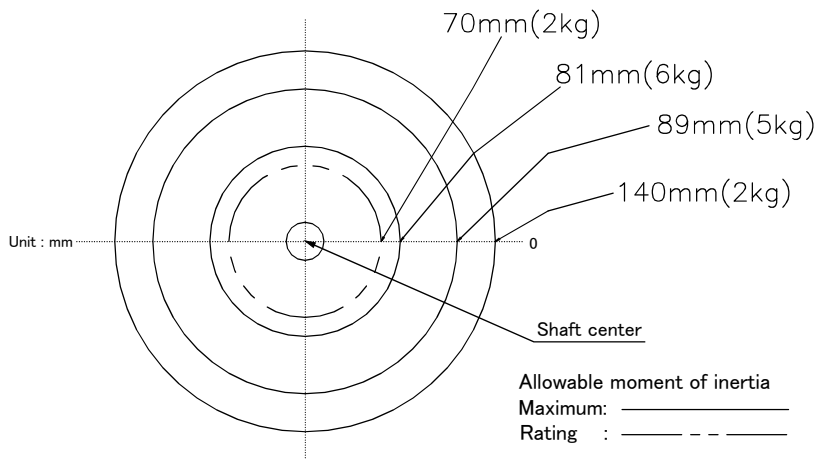
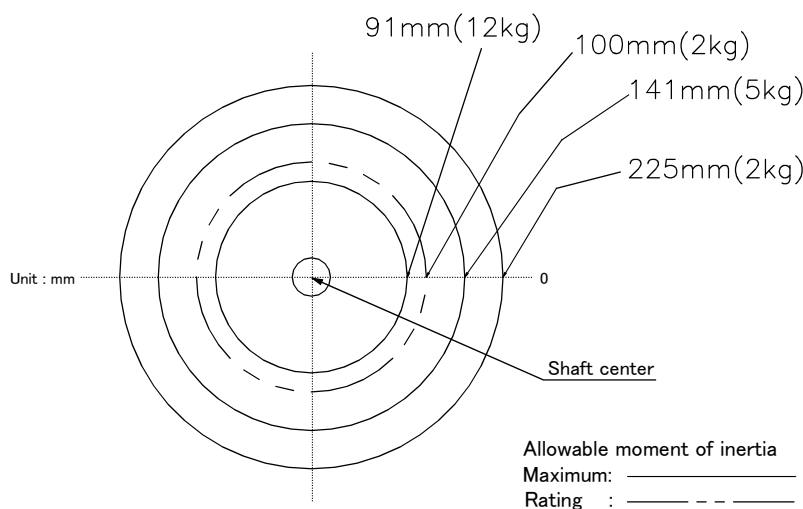
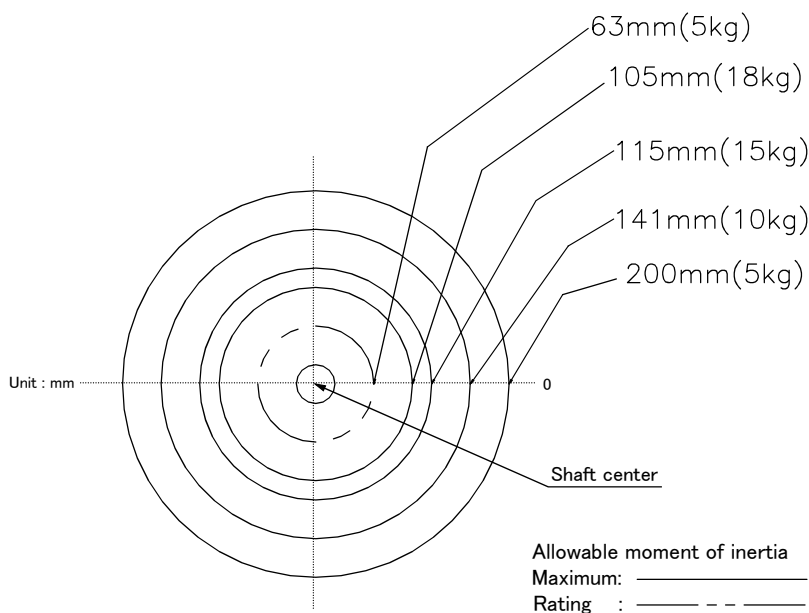

Fig.2-3 : Position of center of gravity for loads (for loads with comparatively small volume): RH-6SDH series
Fig.2-4 : Position of center of gravity for loads (for loads with comparatively small volume): RH-12SDH series
Fig.2-5 : Position of center of gravity for loads (for loads with comparatively small volume): RH-18SDH series
- (1) The tooling should have the value less or equal than the smaller of the tolerable inertia and the tolerable moment found in Page 10, "2.1 Standard specifications".
- (2) Fig. 2-3, Fig. 2-4, Fig. 2-5, Fig. 2-6 and Fig. 2-7 shows the distribution dimensions for the center of gravity in the case where the volume of the load is relatively small. Use this figure as a reference when designing the tooling.